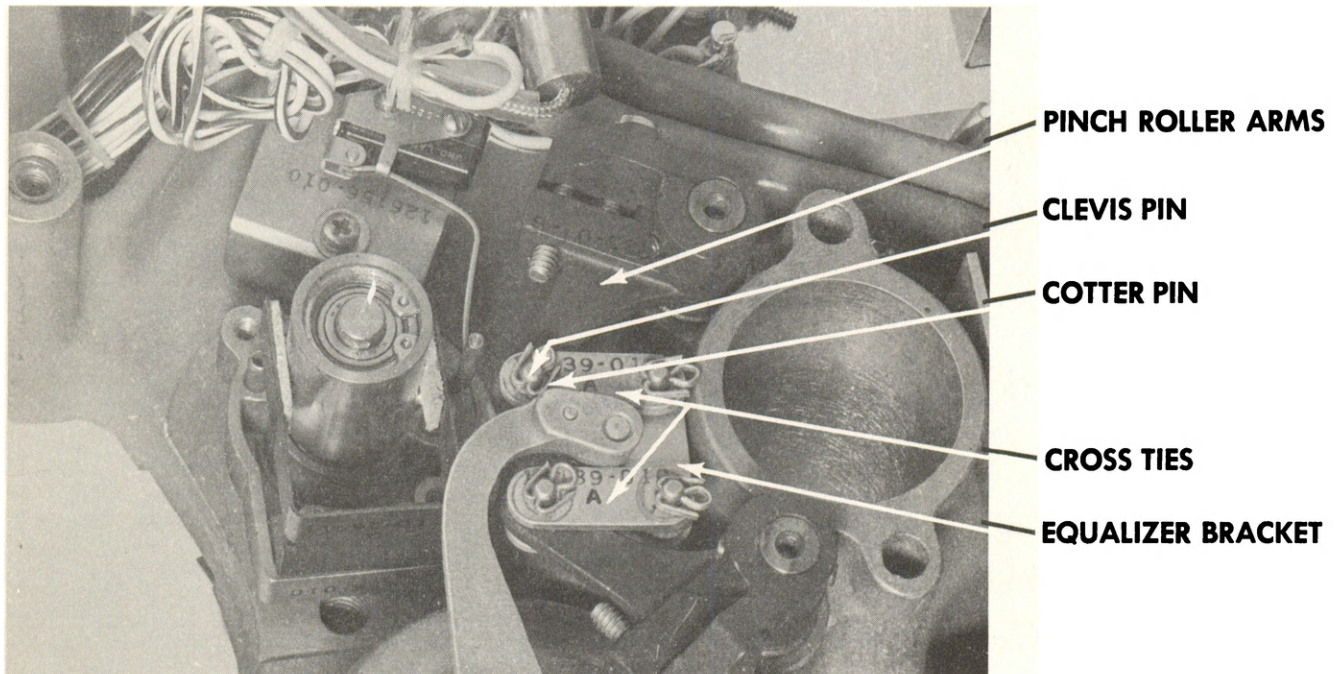

Figure 6-9 Pinch Roller Linkage
- Step 1: Remove the cotter pin securing each cross tie to the pinch roller arm. See Figure 6-9.